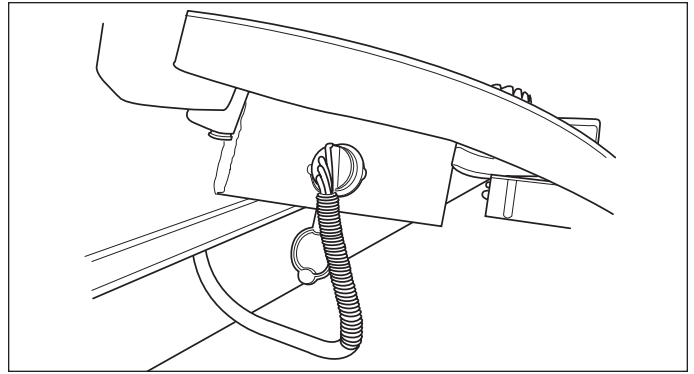

Figure 20. Mower Electrical Connection
12. Disconnect the electrical connection from the tractor and recap the tractor electrical socket. See Figure 20.
2. Hook up the electrical connection (Figure 20).